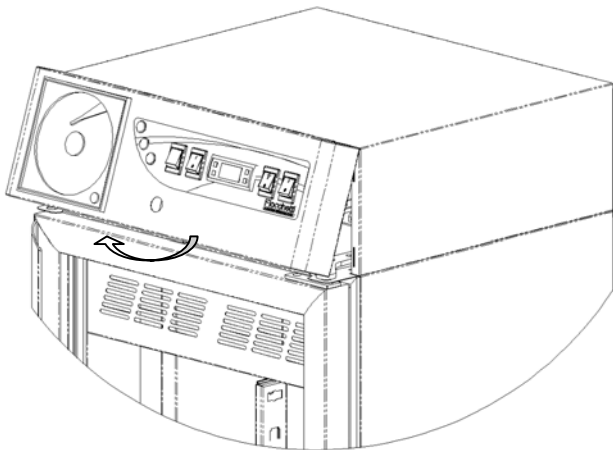
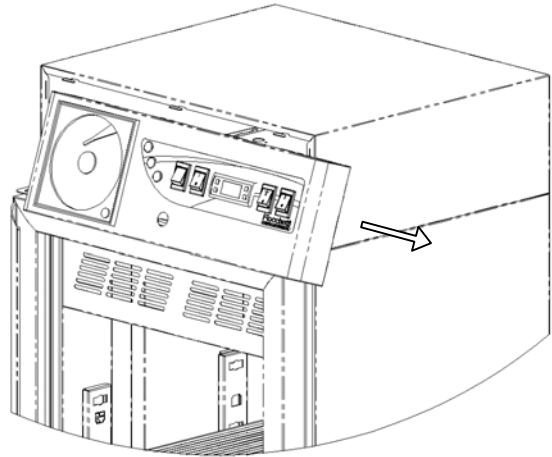

Fig.16
Fig.17
**Phase 2** The control panel blocked in the bottom part with 2 “hooks”, so, must be inclined frontward (Fig.16) and slide it out to the right side (Fig.17).